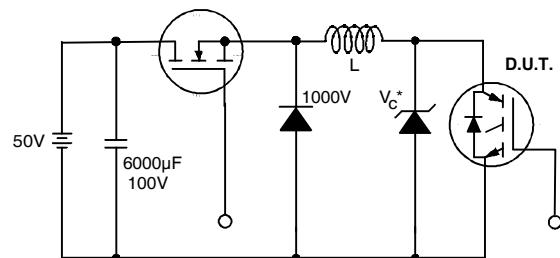

Figure 19. Clamped Inductive Load Test Circuit
- ② $V_{CC}=80\% (V_{CES})$, $V_{GE}=20V$, $L=10\mu H$, $R_G= 100\Omega$ (figure 19)
- ③ Pulse width $\leq 80\mu s$; duty factor $\leq 0.1\%$.
- ④ Pulse width 5.0 μs , single shot.